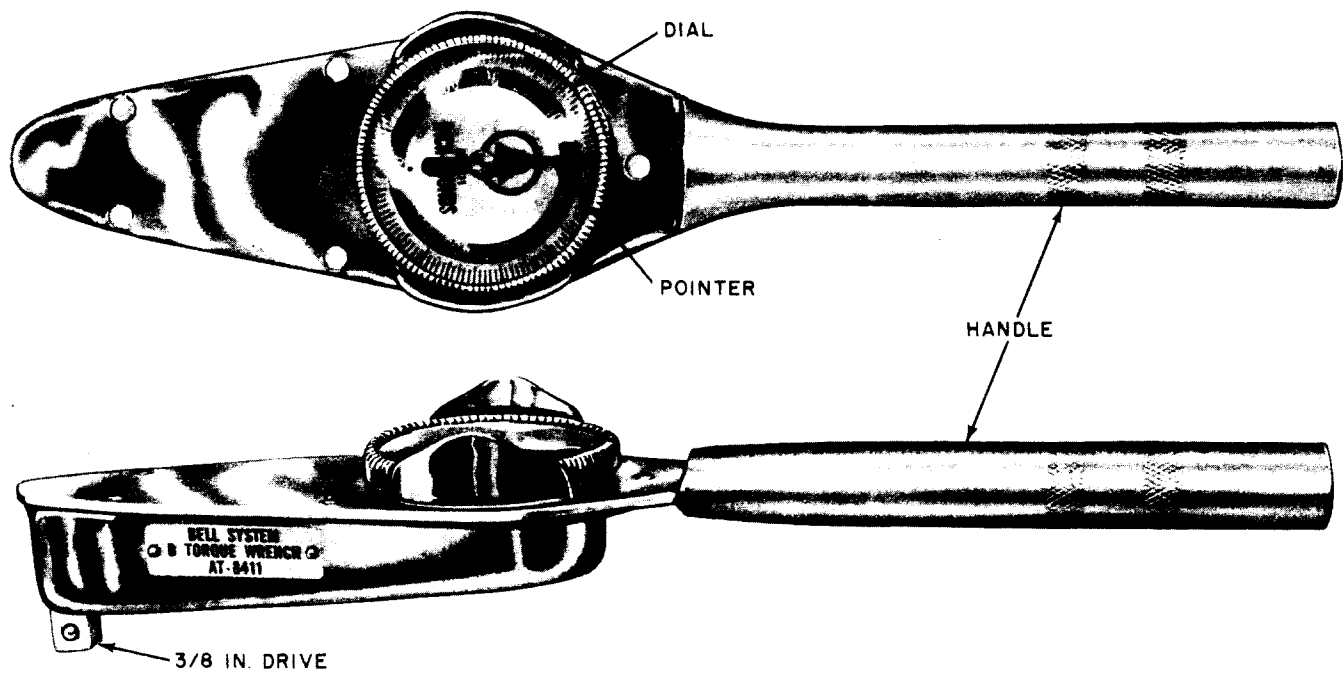

Fig. 1—B Torque Wrench
2.01 The B Torque Wrench (Fig. 1) has a 3/8-inch square drive and a gauge covering a torque range of 0 to 600 inch-pounds in 10 inch-pound increments in either direction.	3.04 Where several nuts or bolts are to be tightened on a single splice case or closure, stagger the tightening of the nuts or bolts, using the ratchet drive socket wrench in the D Wrench Kit, following the Bell System Practice covering the splice case or closure involved. Apply only moderate force on each nut or bolt. After all nuts or bolts are moderately tight, complete the tightening, using the B Torque Wrench, as described in 3.03.